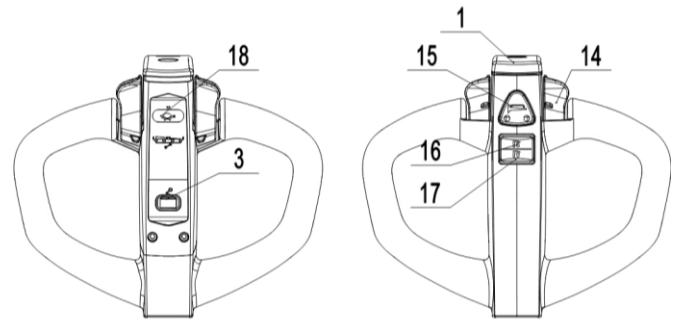

Fig.7: Control handle
Press the horn button (Fig.7, 15) to activate the audible warning signal.
Travel with the lowered forks fully underneath the pallet and press the lifting button (Fig. 7, 16) until you reach the desired lifting height.
Control travelling speed by operating the accelerator (Fig.7,14) carefully until you reach desired speed.
Press turtle button (Fig.7,18) to enter into slow speed mode, travel slowly by operating the accelerator (Fig.7,14), press turtle button again to switch to regular speed mode.
Press the turtle button (Fig.7,18) and hold it for 2 seconds to activate driving function with tiller in vertical position when operating in confined areas.
- By moving the accelerator knob (14) to the initial '0' position or by releasing the knob, the regenerative braking is activated. The truck brakes until it stops.
- By moving the accelerator (Fig.7, 14) from one driving direction directly to the opposite direction, the regenerative braking is activated until the truck starts traveling into the opposite direction.
The safety (belly) button (Fig.7, 1) prevents the operator from crush. If this button is activated, the truck decelerates and/or starts traveling into backwards direction ('Bw.') for a short distance and stops then. Please consider that this button still works if the truck is not traveling with tiller in operating zone.
If there are any malfunctions or the truck is inoperative, please stop using the truck. If possible, park the truck in a safe area and remove the key (Fig.7, 3). Inform immediately the manager or call your service. If necessary, move the truck out of the operating area by using dedicated towing/ lifting equipment.